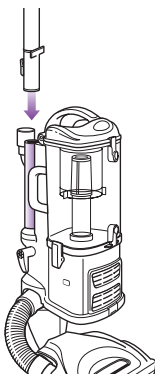

Fig. 10
- 3 Attach the end of the extension wand to the tube on the back of the *Lift-Away*® canister until it clicks into place. **(Fig. 10)**